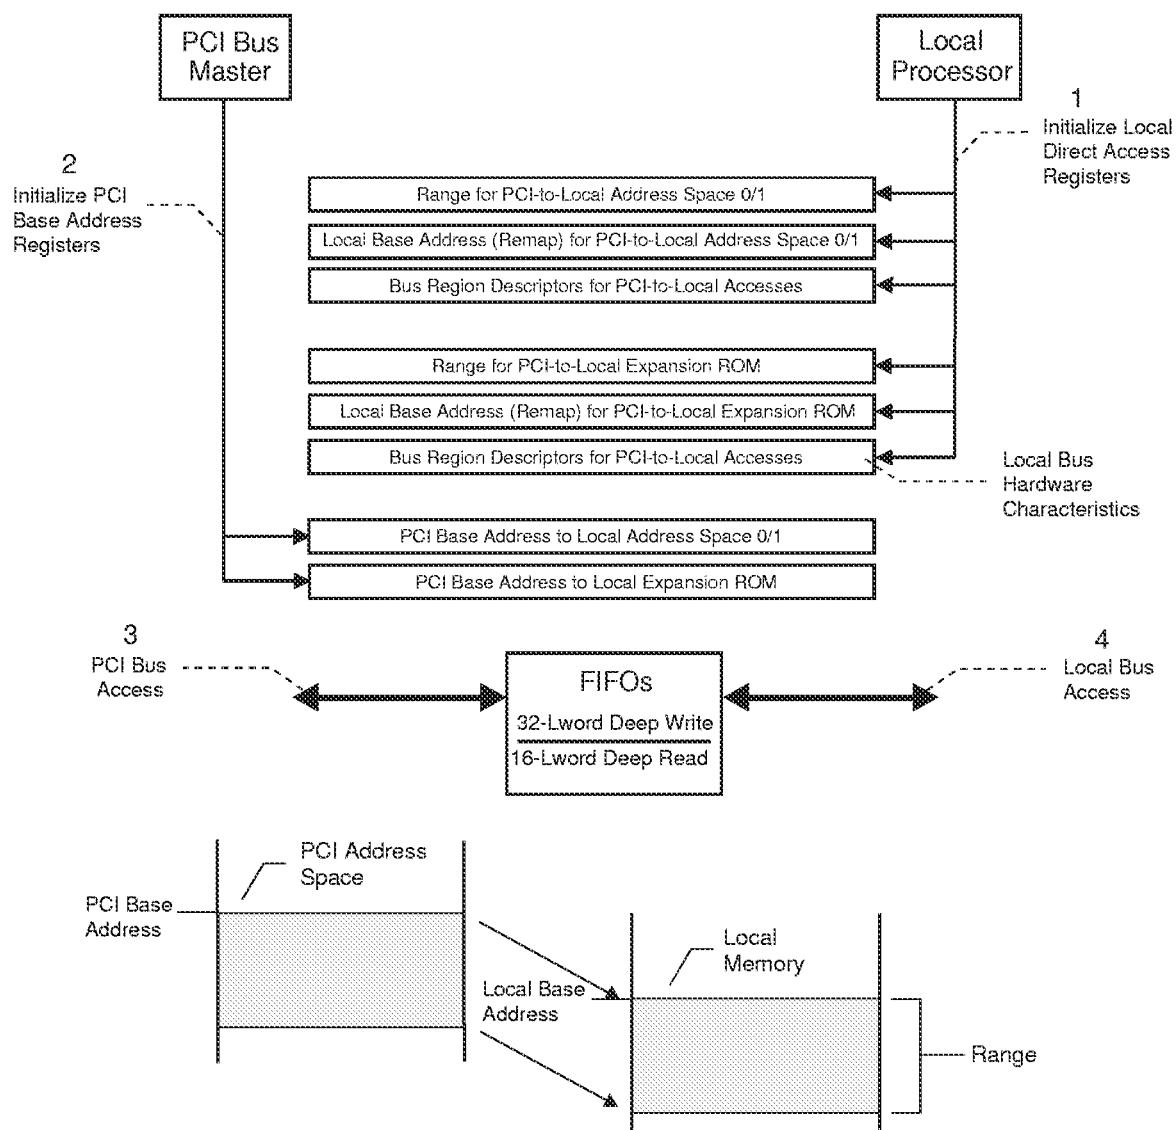

Figure 3-10. Local Bus PCI Target Access
A fourth register, the Bus Region Descriptor register for PCI-to-Local Accesses (LBRD0 and/or LBRD1), defines the Local Bus characteristics for the PCI Target regions (refer to Figure 3-10).
After a PCI reset, the software determines how much address space is required by writing all ones (1) to a PCI Base Address register and then reading back the value. The PCI 9054 returns zeroes (0) in the Don't Care Address bits, effectively specifying the address space required. The PCI software then maps the Local Address space into the PCI Address space by programming the PCI Base Address register. (Refer to Figure 3-10.)